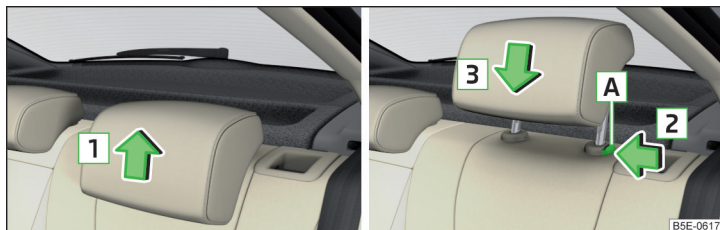

Fig. 73 Setting the height of the back headrest
- › Grasp the headrest and move **upwards** in the direction of **1** » Fig. 73.